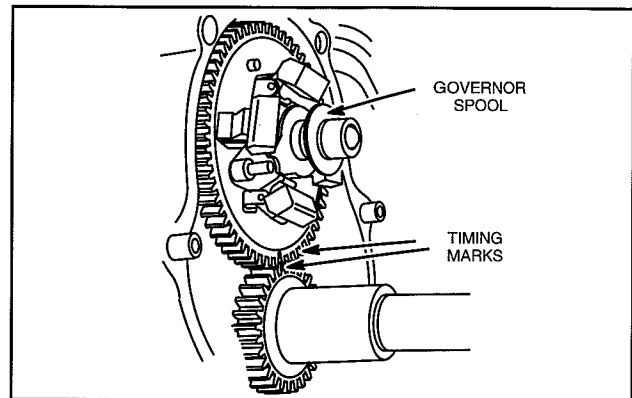

Fig. 2 – Remove Camshaft
- a. Remove governor spool from camshaft, Fig. 2.
3. Rotate crankshaft and camshaft until timing marks align and remove camshaft, Fig. 2.